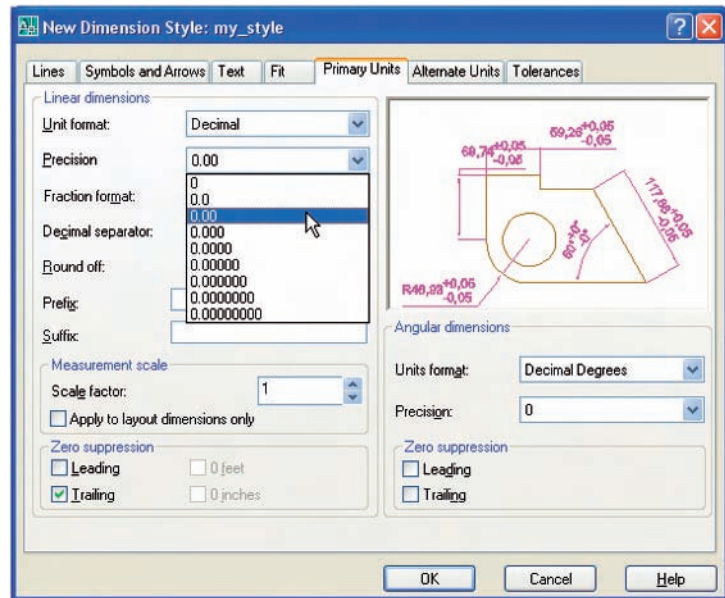

Fig. 6.22 The **Primary Units** sub-dialog of the **Dimension Style Manager**
2. Click the **Modify . . .** button of the dialog, followed by a *left-click* on the **Primary Units** tab and in the resulting sub-dialog make settings as shown in Fig. 6.22. Note the changes in the preview box of the dialog.